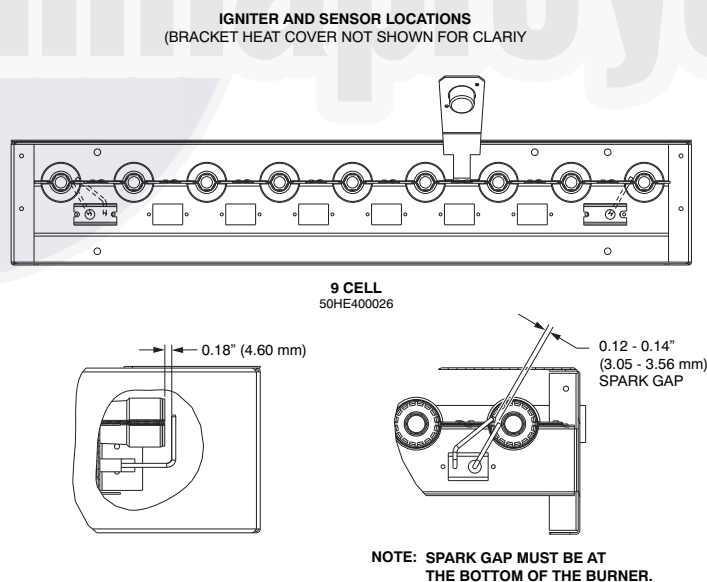

Fig. 59 - Typical MRT Spark Adjustment
4. Adjust spark gap. The gap should be 0.12-0.14" (3.06-3.60 mm) and spaced 0.18" (4.60 mm) from the end of the burner. See Fig. 59.